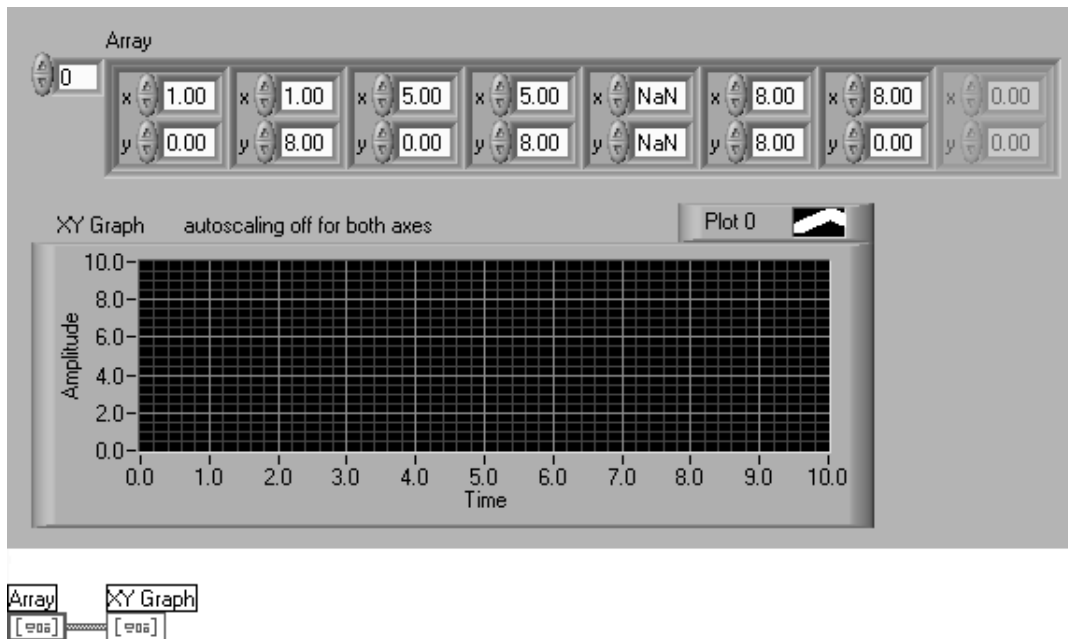

Figure 1-151
Clusters are very handy for passing complex data structures to charts and graphs. Back in the section on graphs, we didn’t go into the XY Graph because we had yet to discuss clusters in depth. Build the VI shown in Figure 1-151, using these tips:
3. Drop an array, drag the cluster into the array, grow the array as shown in Figure 1-151, then enter the values shown. This is an array of clusters of two floating-point numbers. We can pass this particular data type to an XY Graph. The NaN stands for Not a Number, and causes the corresponding point to not be drawn on a graph or chart.
6. Wire the two terminals together on the block diagram. Your VI should now look like Figure 1-151 (see Table 1.4 to see why the color of your wire is brown).